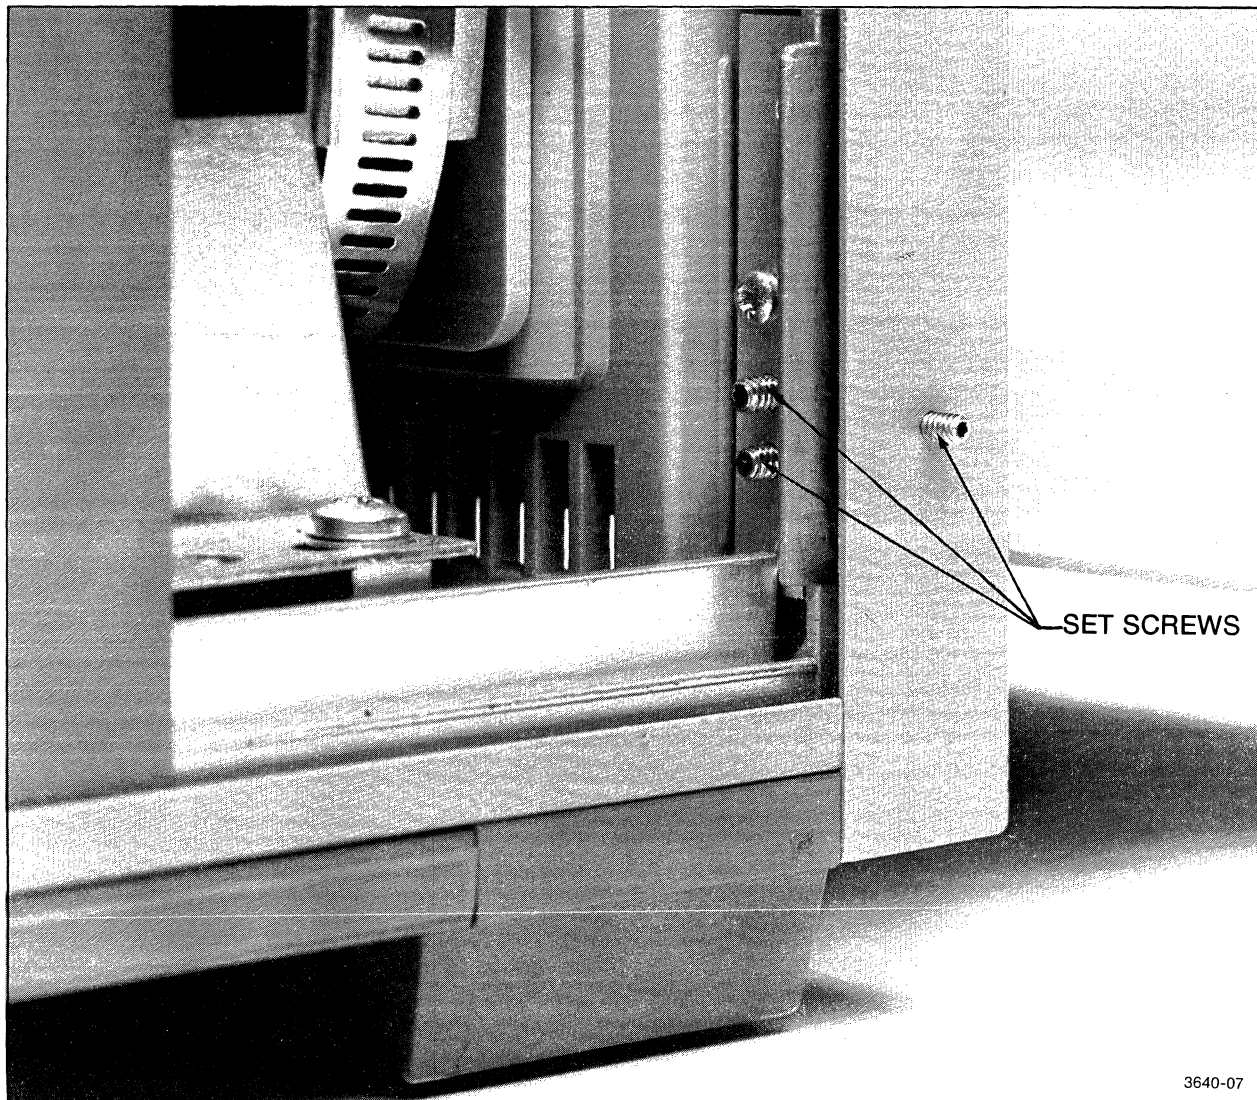
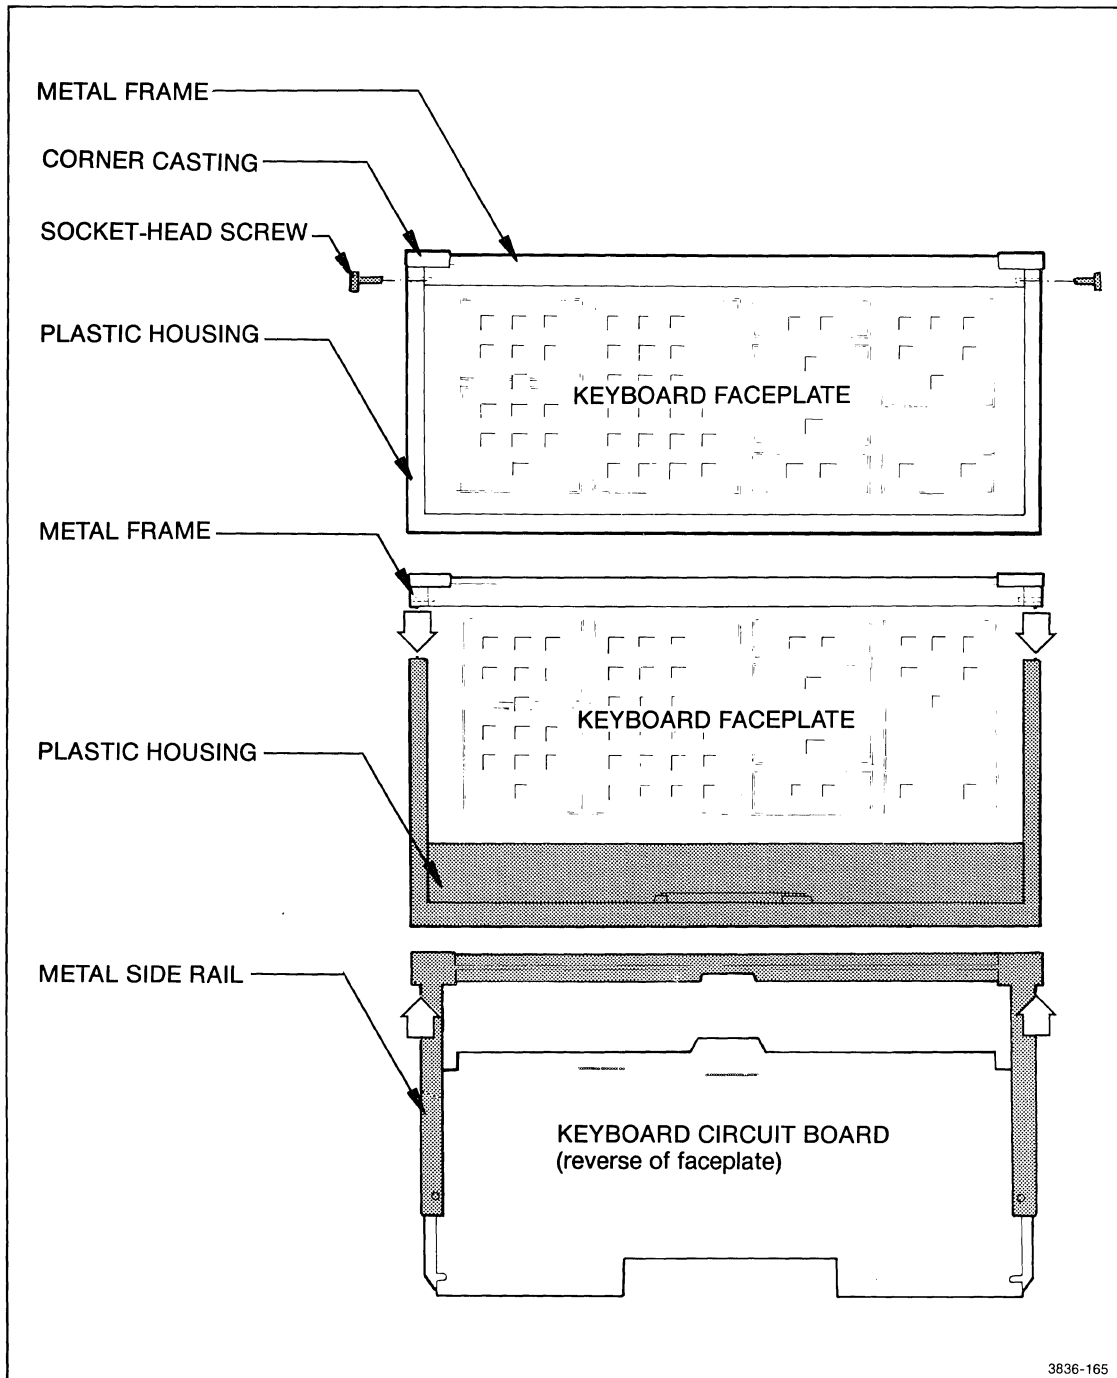

Figure 6-13. Socket-head set screws secure the rear keyboard frame to an angled metal bar on the front casting.
Figure 6-15. Dismantle the keyboard to access the circuit board.
Figures 6-13 and 6-14 illustrate the steps required for removing the keyboard from the mainframe. Figure 6-15 demonstrates how to dismantle the keyboard to remove the circuit board. Refer to these figures while reading the following instructions.
7. Remove the two socket-head cap screws (2-56 x 0.188) on the sides of the keyboard frame near the corner castings (see Figure 6-15). Use a 5/64 Allen wrench.